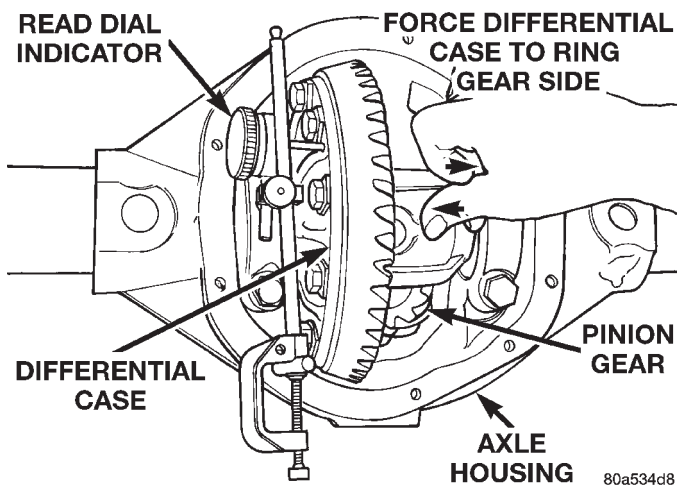

Fig. 69 Hold Differential Case and Read Dial Indicator
- (23) Push and hold differential case to ring gear side of the axle housing (Fig. 69).
- (24) Record dial indicator reading (Fig. 69).
- (25) Subtract 0.002 in. (0.05 mm) from the dial indicator reading to compensate for backlash between ring and pinion gears. This total is the thickness shim required to achieve proper backlash.